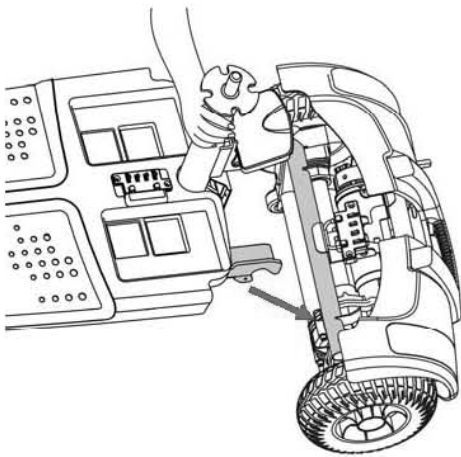

Fig. 1
2. Set the rear section in the up position and make sure the hook for the front section is connected to the axle of the rear section. (See Fig. 1)